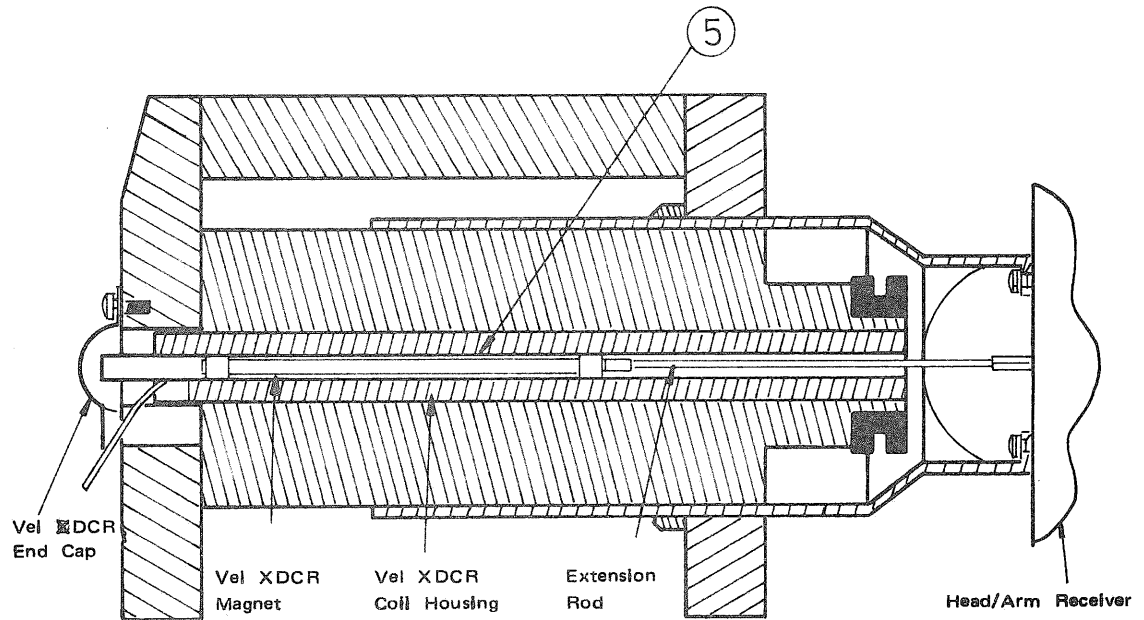

Figure 1.8: The Magnet Assembly
3. magnet assembly (Figure 1-8)
6. position transducer (Figure 1-8)
The stationary part, placed in the magnet assembly (see Figure 1-8) consists of coil with its output to a velocity amplifier.